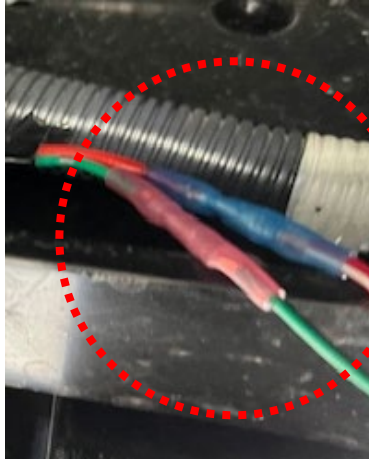

Figure 10
11. Use a heat gun to shrink the insulation on the connectors over the wires tightly. (See Figure 10.)